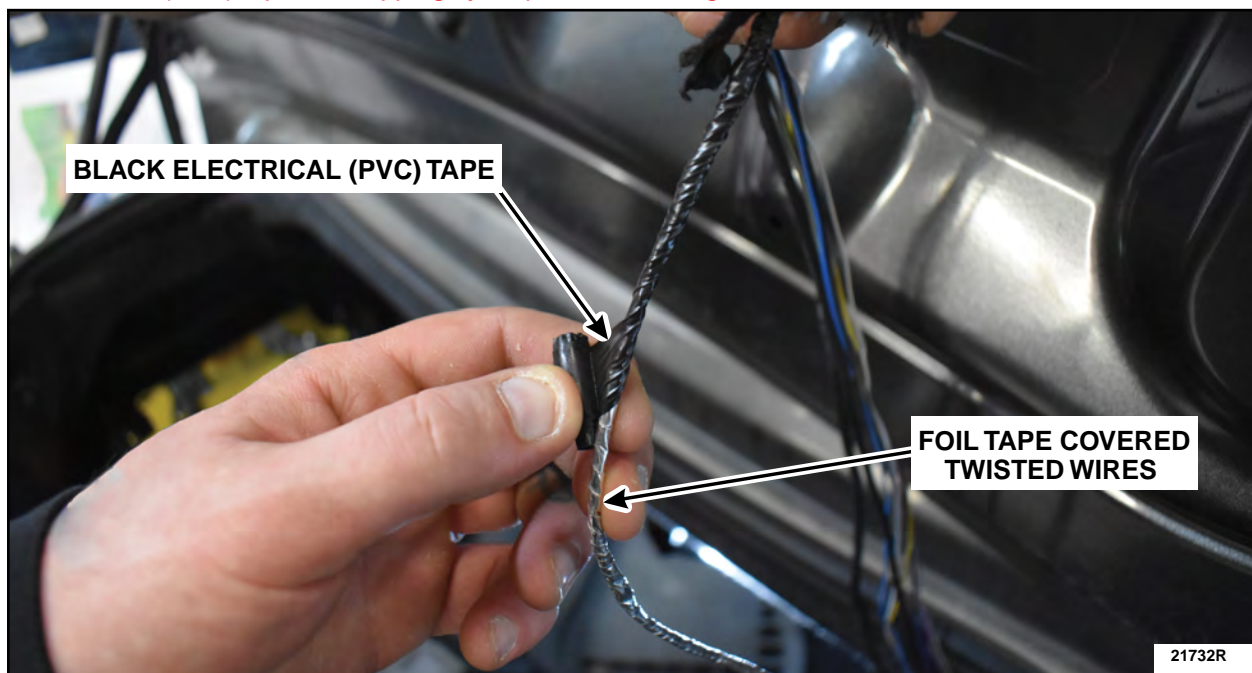

FIGURE 18
27. Wrap the full length of the foil tape covered twisted wires using KTI73510 or equivalent black electrical (PVC) tape over lapping by 50 percent. See Figure 18.